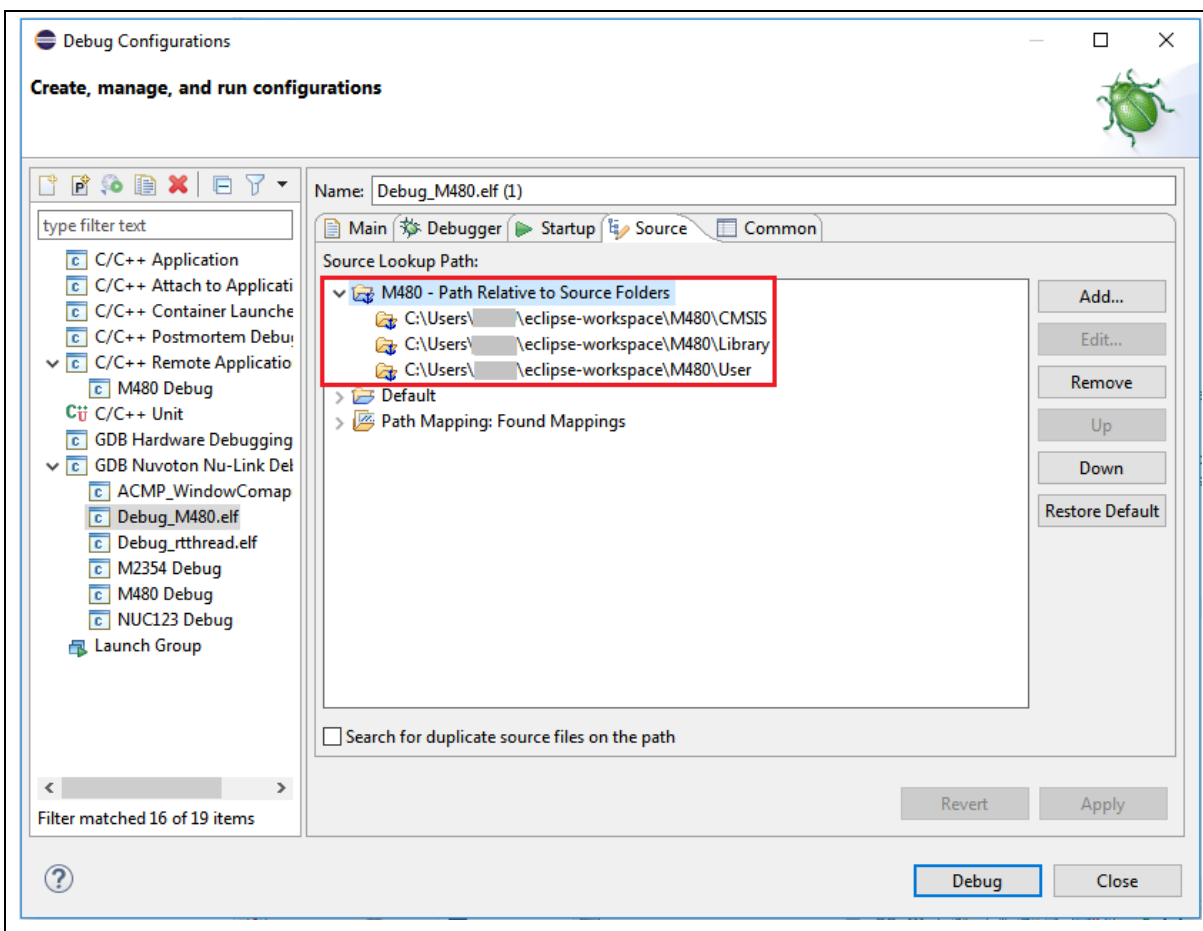

Figure 4-31 Adding Source Lookup Path
6. Add source lookup path relative to source folders (referring to Figure 4-31).